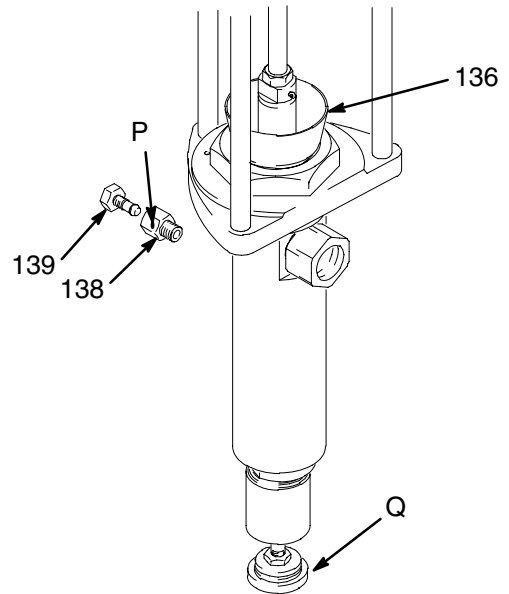

Fig. 3
1. Make sure the air regulator (H) is closed.
2. Open the bleed-type master air valve (G).
6. If the pump fails to prime properly, open the bleeder valve plug (139) slightly. Use the bleeder hole (P) on the underside of the valve body (138) as a priming valve until the fluid appears at the hole. See Fig. 3.
7. Close the bleeder valve plug (139).